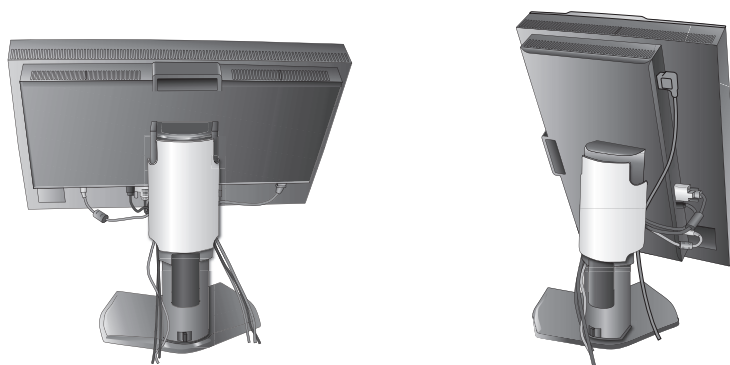

Figure D.1
- 7. Slide down the cable cover (**Figure D.1**).